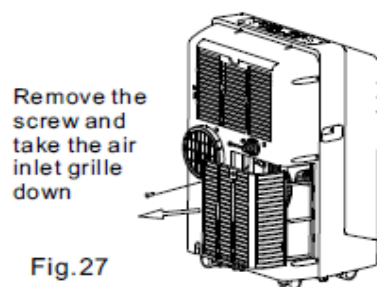

Fig.27
- Remove the lower filter by loosening the screw and taking down the air inlet grille. (Fig.27 & 28).